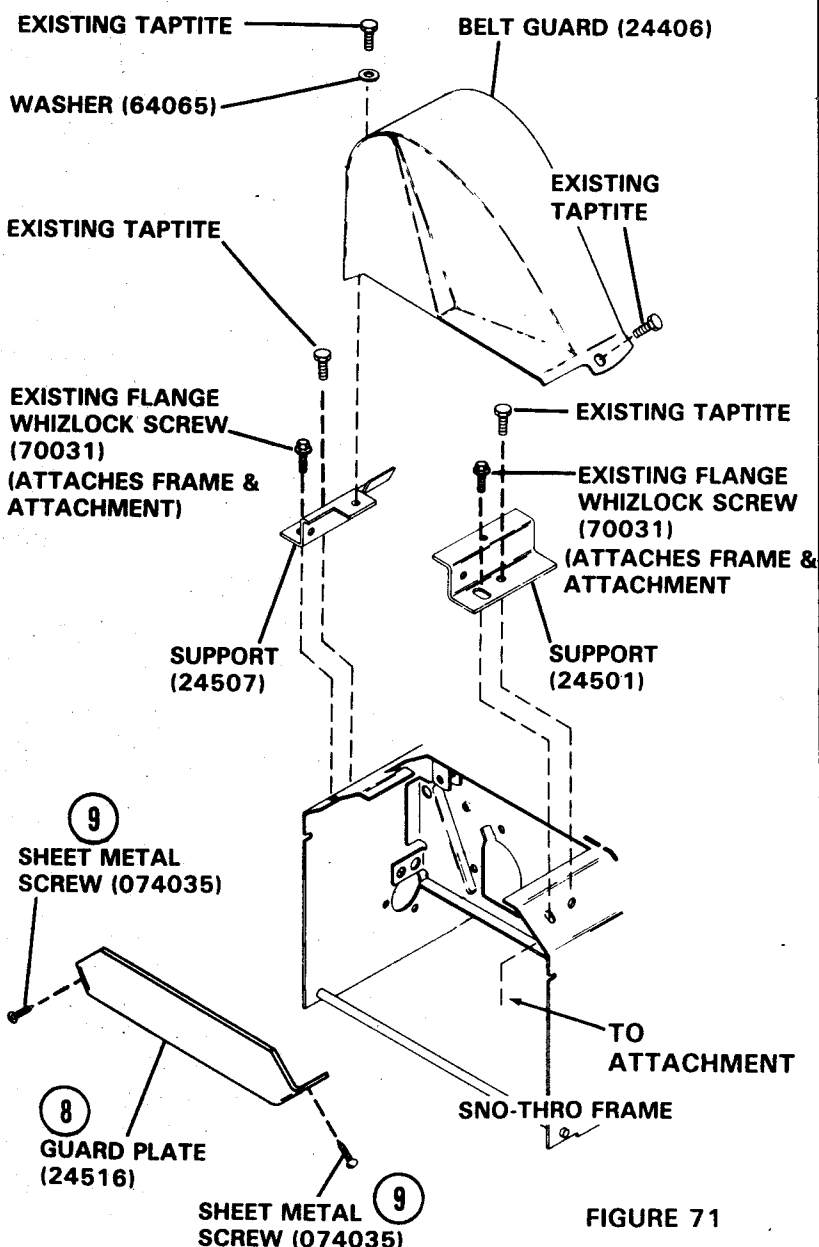

FIGURE 71
- Remove Belt Guard and Supports from the Sno-Thro as illustrated in Figure 71.
- Attach the assembled Supports with Belt Guard Plate loosely to the Sno-Thro frame with the two original taptites. See Figure 71.
- Following instructions provided in your Rotary Mower or Rotary Brush Owners Manual, complete the installation of the attachment. Secure the Attachment to the frame using existing Flange Whizlock Screws (70031) through the front slots at the Supports, through the front slots of the Sno-Thro Frame and into the Attachment. Tighten the Supports to the Sno-Thro Frame with the existing taptites. See Figure 71.
- After installation of the Attachment Drive Belt, the Belt Guard may be secured to the Supports with the two remaining taptites. See Figure 71.